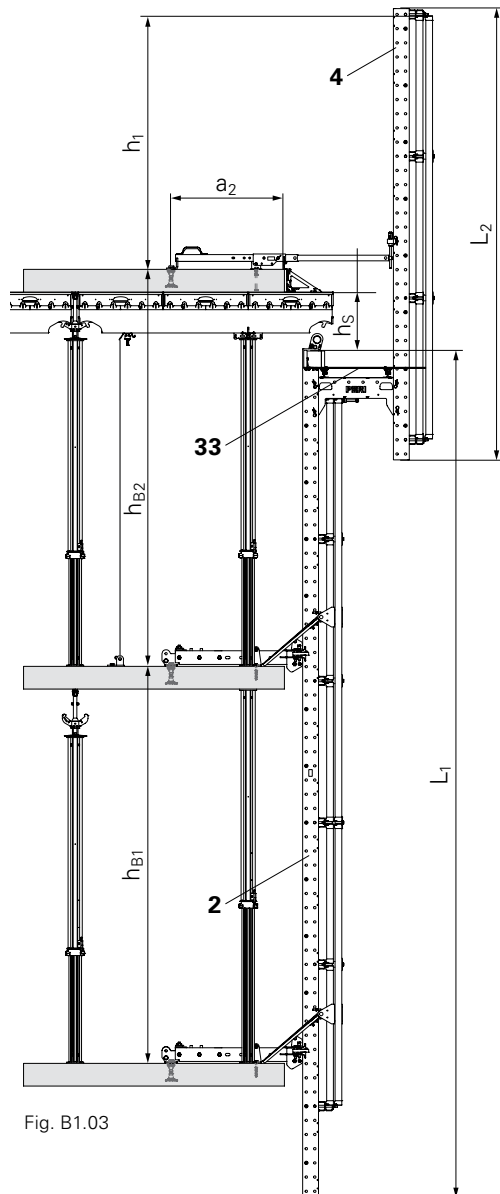

Fig. B1.03
Climbing Rail-2 LPS (2) with mounted working platform (32) and Climbing Rail LPS as enclosure post (4). (Fig. B1.03)